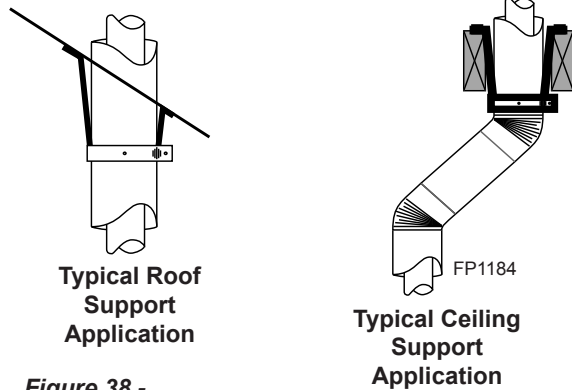
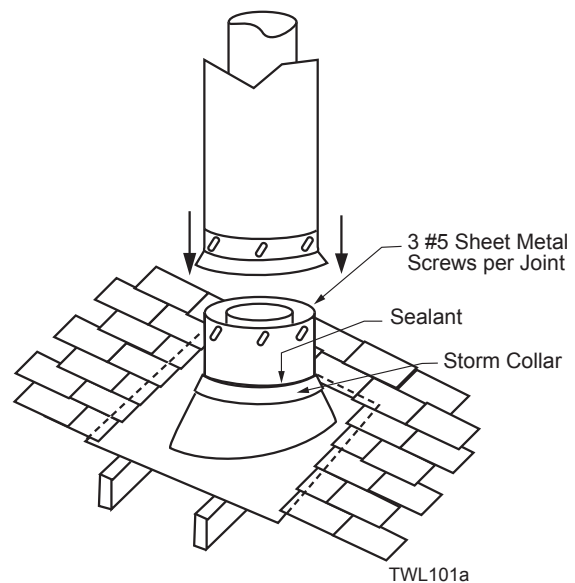

Figure 38 - Venting Supports
Figure 40 - Roof Flashing
7. Install roof support (*Figure 38*) and roof flashing making sure upper flange is below the shingles. *Figure 40*
8. Install appropriate pipe sections until the venting is above the flashing. *Figure 40*
10. Add additional vent lengths for proper height. *Figure 40*